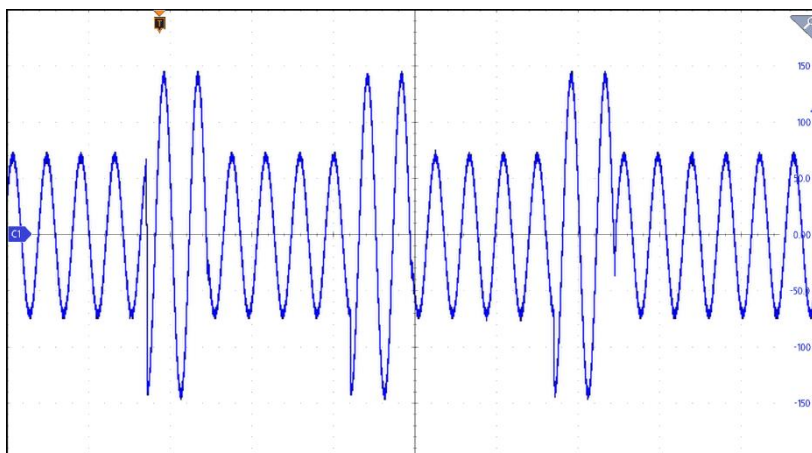

Figure 5-23 Pulse Mode Setting Page (Example Output Waveform for Phase 1)
6. After setting the parameters, tap the Home key , press the OUTPUT ON key, and then tap **TRIG. ON** to trigger the output. The output waveform is shown in Figure 5-23.